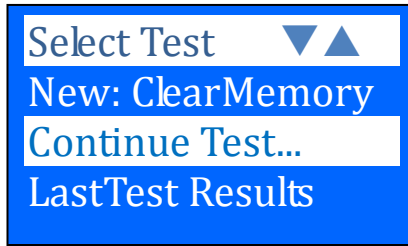

Figure 49
- 3. It will run through a self-test and when completed it displays the Main Menu as shown: (Fig. 49)